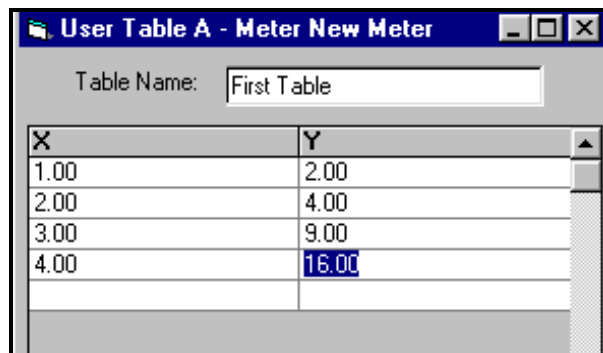

Figure 57: Completed User Table
3. Enter a name (up to 13 characters) for the table in the “Table Name” text box, and enter up to 16 X and Y values in the appropriate columns. The table now appears similar to Figure 57.